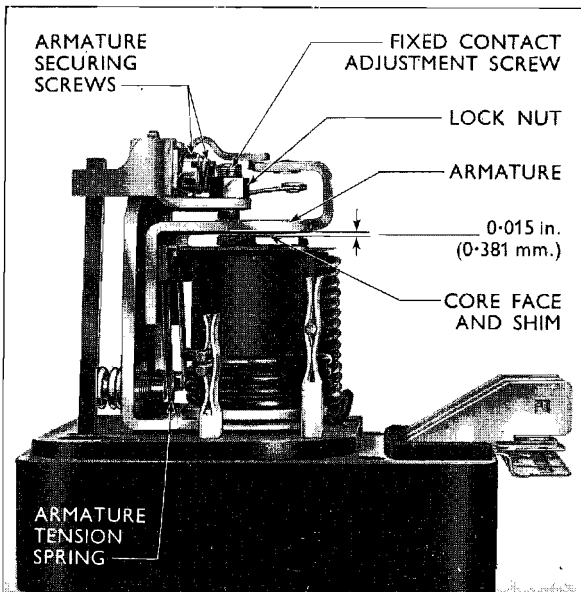

Fig. 2
(1) Slacken the locknut securing the fixed contact and screw to its bracket. Unscrew and remove the fixed contact and screw.
(2) Remove the two armature screws and lock-washers (refer to Fig. 2) and detach the metal strip.
(3) Move the fixed contact mounting over slightly, enabling the moving contact bracket to be lifted out. Take care not to lose the insulating strips positioned on either side of the fixed contact mounting bracket.
(4) Clean the contact points with a suitable cleaning fluid or carborundum paper operated in a circular movement. Carefully wipe away all traces of dirt or other foreign matter. Finally, wipe both points with methylated spirits (de-natured alcohol).
(5) Replace the points in the reverse sequence to that described above in paragraphs (1) to (3), and reset the air gaps as described below.
(1) Disconnect the battery and if preferred remove the regulator.
(2) Slacken the fixed contact screw locknut and unscrew the contact screw until it is clear of the armature moving contact (refer to Fig. 2).
(3) Slacken the regulator adjusting screw until it is completely clear of the armature tension spring.
(4) Slacken the two armature assembly securing screws. Using a 0.015 in. (0.381 mm.) feeler blade, wide enough to cover the complete core face, insert the blade between the armature and core shim, taking care not to damage or burr the edge of the shim.
(5) Press the armature **squarely** down against the blade and, holding it firmly, retighten the two armature assembly securing screws.